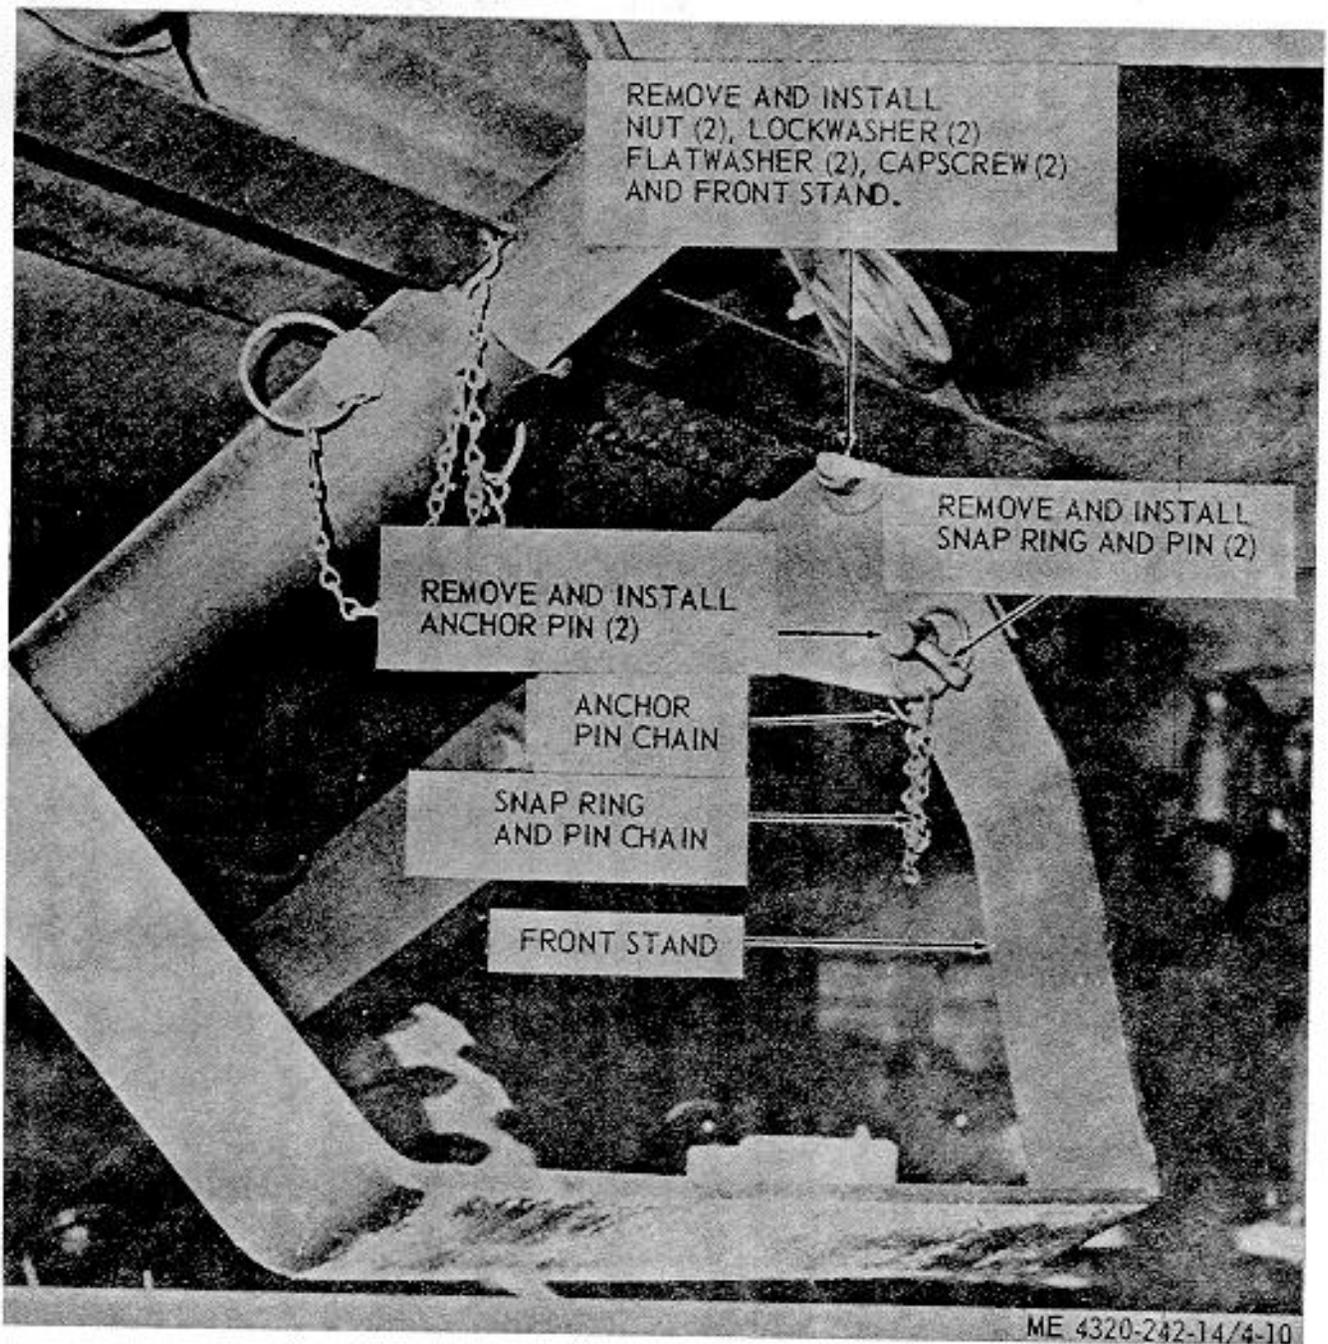

Figure 4-10. Front stand, removal and installation.
- (1) Block up or provide other support for the pumping assembly.
- (2) Refer to figure 4-10 and remove the stand.
- (1) Refer to figure 4-10 and install the stand.
- (2) Remove blocking or other support.